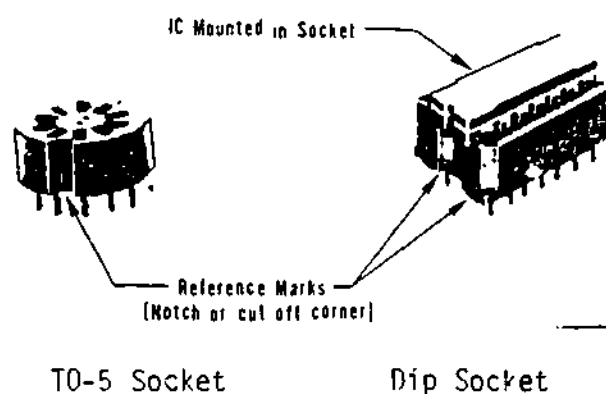

Figure 8
9. Not all IC's are soldered into place on a printed circuit board; some are plugged into a special IC socket which is soldered into place on the printed circuit board. See Figure 8.
To put an IC into a socket first make sure that the power is off. Next, line up the IC's reference mark (a notch, hole, dot, or tab) with the socket's reference mark (a notch or cut off corner as shown in Figure 8). Then, holding the IC between your thumb and forefinger, gently rock the IC into the socket (you may have to bend some of the IC's leads to make them match the socket's holes).